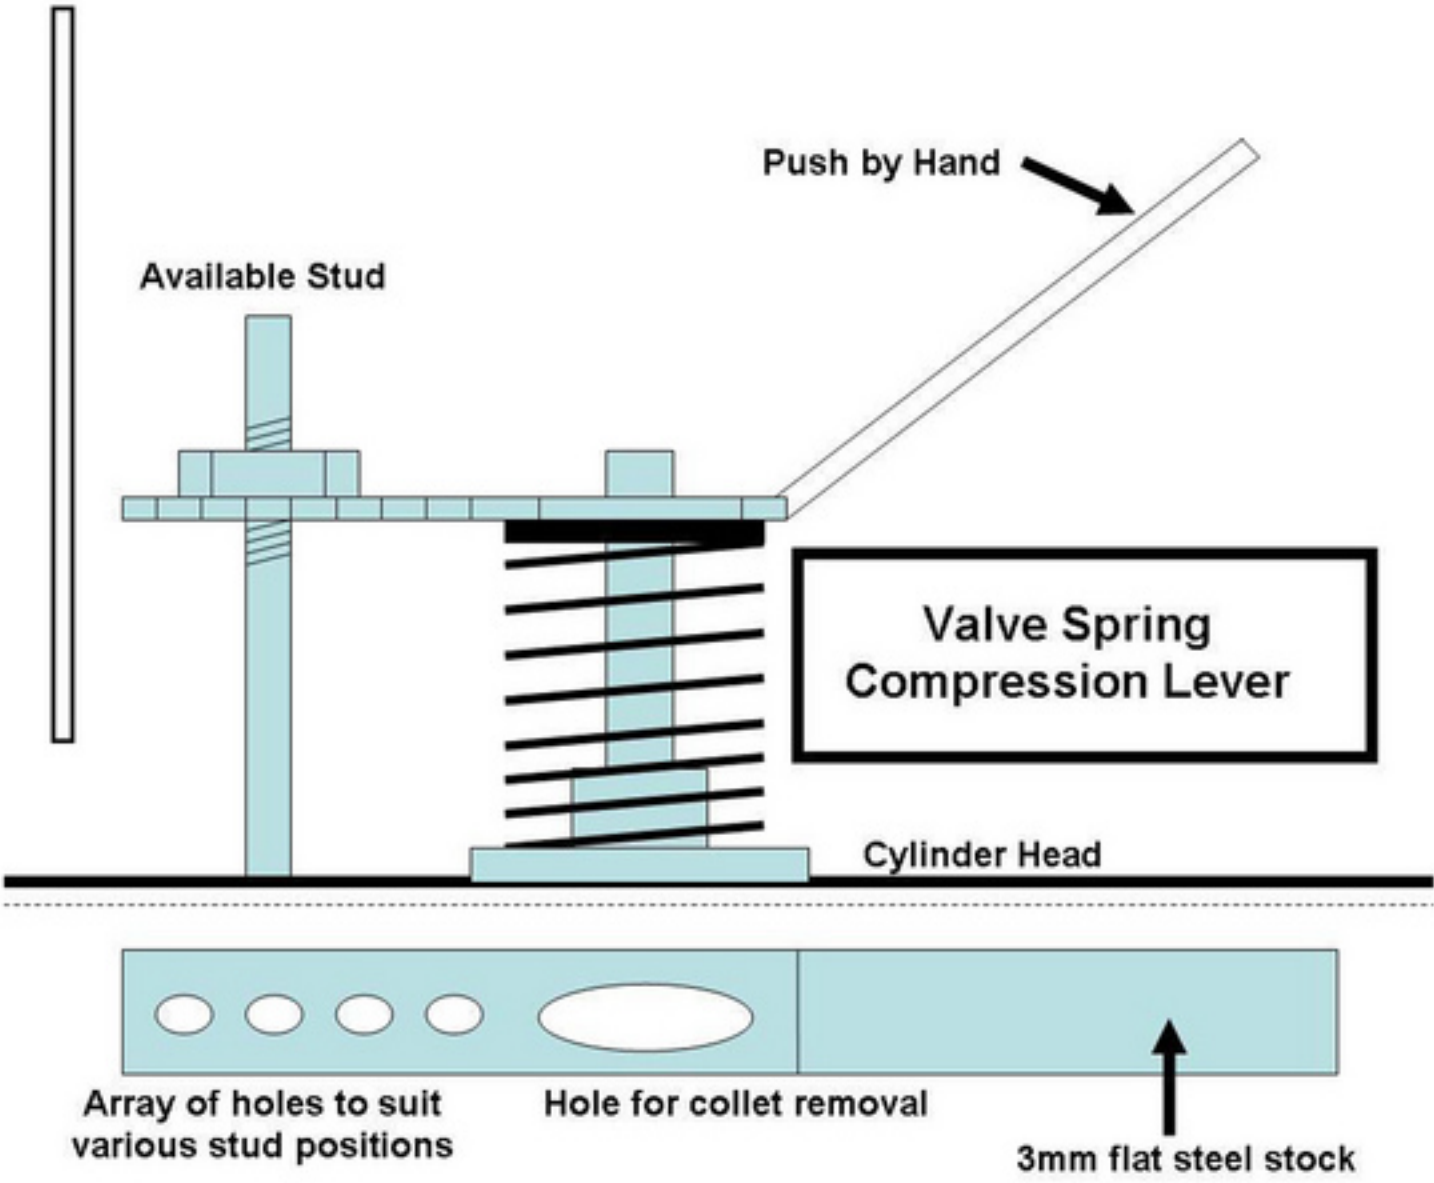

Figure 1
6. Using the spring compression device (Fig. 1 below), compress the spring and remove the valve collets. Release the compression device, remove the valve stem end circlip, and remove the valve springs.